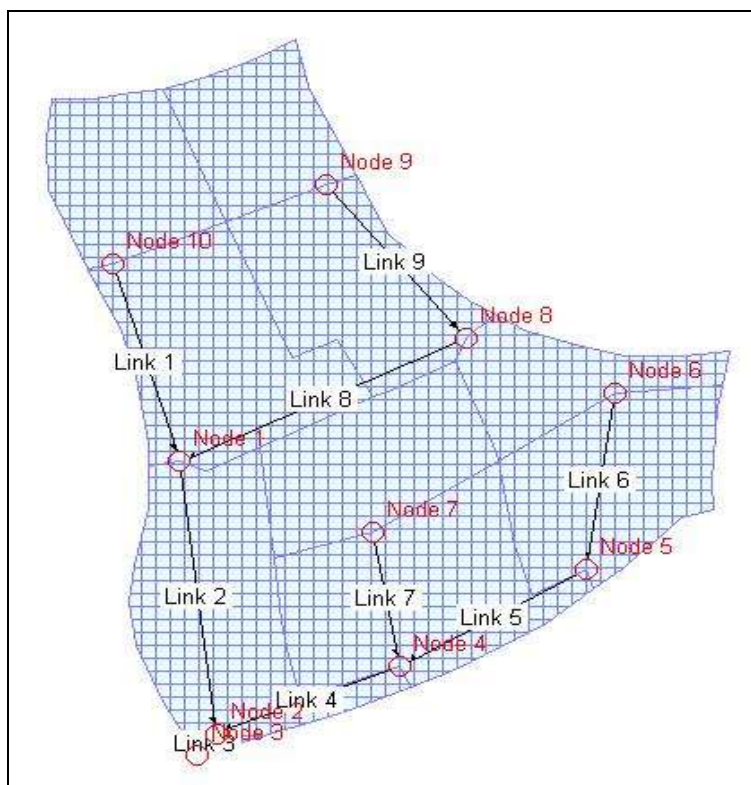

Figure 6 Cougar Estates Storm Drain Schematic from xpswmm
2. The xpswmm window should now display an image similar to that shown in Figure 6.
3. Double click on the node labeled “Node 9” in Figure 6.
5. Double-click on the link labeled “Link 9” in Figure 6.
8. Double-click on the most downstream link in the network (Link 3 in Figure 6)
4. Double-click on the most downstream link in the network (Link 3 in Figure 6).